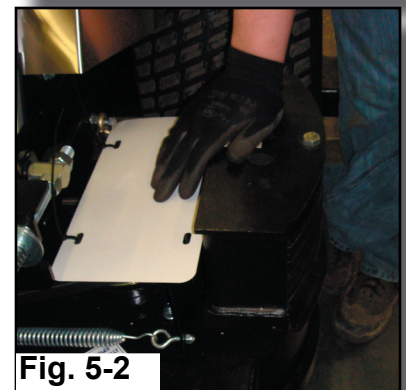

Fig. 5-2
2. Using the same bolts from previous step, fasten the counterweight to the deck (Fig. 5-2).